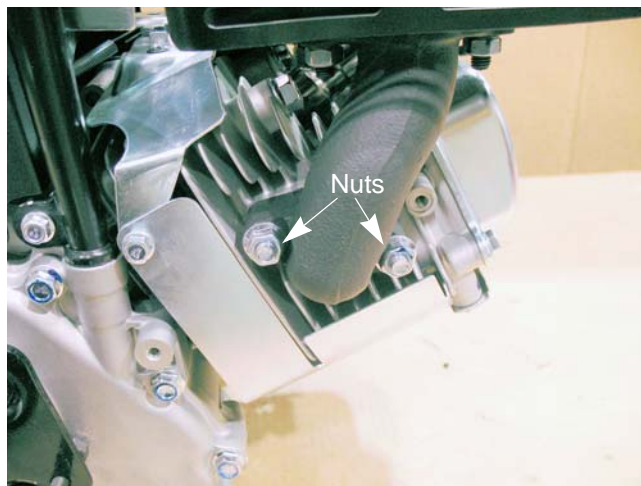

Figure 8.3
1. Remove the two nuts that hold the manifold pipe to the cylinder head using a 13mm wrench. See Figure 8.3.